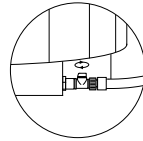

Figure 11.5d
5. Turn the hose bib switch to the open position to release the water, Figure 11.5d.